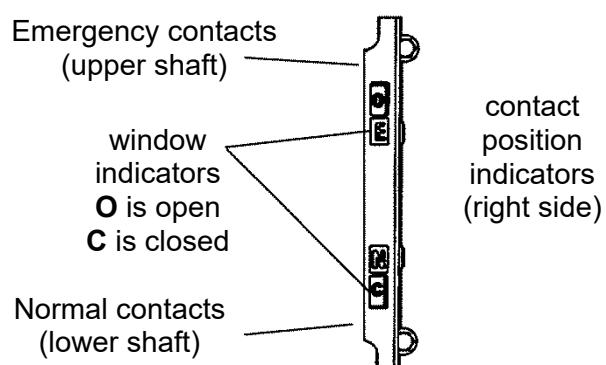

Figure 4. Contact position indicators
1. Bypass, isolate, and withdraw the transfer switch (pages 12 through 15). Then locate and remove the maintenance handle from the clip (inside lower left side). Insert the handle onto the shaft on the left side of the operator of the transfer switch. See Figures 4, 5, 6 and Table C.